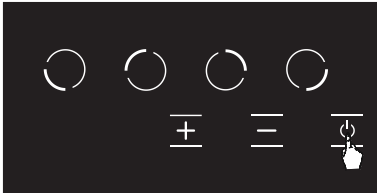

Figure 11
1. You may turn the stove off by pressing the **⏻** button. (See Fig. 11)